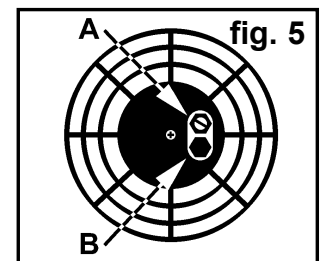

fig. 5
- 5.1. **Running the heater on paraffin.** The heater has been factory pre-set for paraffin and will produce the correct heat output when first used from new. You should run the heater at the pre-set output in order to ensure the long life, safety and reliability of the unit. Minor adjustments to heat output may be required during the first 60 hours of use. These adjustments are made to the air pressure valve (see fig.5.A). Once the unit has completed the running-in period it should not be necessary to alter the air pressure again until a new air filter is fitted or a change of fuel takes place.
- 5.1.4. To adjust the heat output, locate the air pressure valve (fig.5.A), which is in the centre portion of the air inlet grille at the back of the unit. Hold the adjusting screw steady with a screwdriver and loosen the locking nut. Turn the screw clockwise to increase the air pressure and thus increase the heat output. Turn the screw anticlockwise to decrease the air pressure and thus decrease the heat output. Make small adjustments only and give the heater time to stabilise before observing the effect on the colour of the dome. When the colour is normal as described above in section 5.1.3.(a) tighten the locking nut.
5.2.3. Plug back into the mains supply and start the heater, run for two minutes before making any adjustment to the air pressure valve. Locate the valve (fig.5.A) which is in the centre portion of the air inlet grille at the back of the unit. Hold the adjusting screw steady with a screwdriver and loosen the locking nut. Turn screw half a turn anticlockwise to decrease the air pressure, and thus decrease the heat output, to compensate for the hotter burning diesel fuel. Retighten the locking nut.
- 5.3.1. If there is any doubt about the efficient operation of the heater, the air pressure should be checked more exactly using a pressure gauge which will measure up to 30 p.s.i. and has a 1/8" BSP thread. With the heater turned off and unplugged from the mains, remove the threaded plug from below the air pressure valve and attach the gauge, see fig.5.B. Start the heater and compare the pressure reading with the chart shown on the right. If the reading differs from the chart this indicates that maintenance is required as laid out in Section 6. You should also investigate whether the environmental conditions at the location of the heater are suitable, with particular reference to the amount and quality of the air supply.